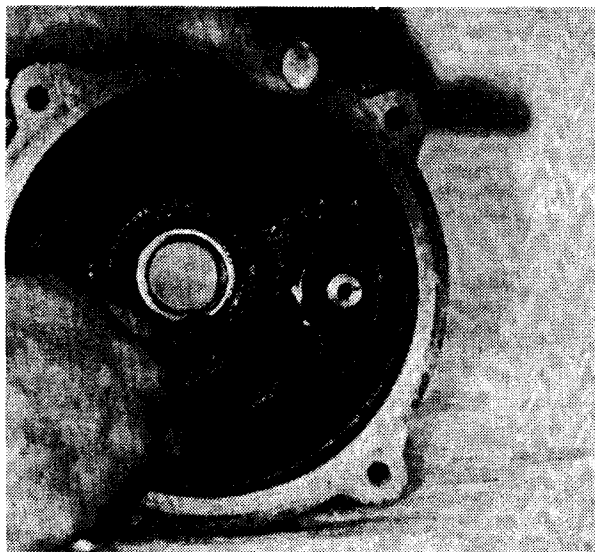

FIG. 42
15. Put in new seal failure wires and adjust so that the probe portion of the seal leak wires are staggered, the end of the longest wire being up $\frac{1}{4}$ " from the machined face of the casting. See Figure 41. Position shorter lead above the first so probes do not touch. See drawing front cover. Retighten seal nut. Be sure rubber seal ring is in place to seal wire. See Figure 42.